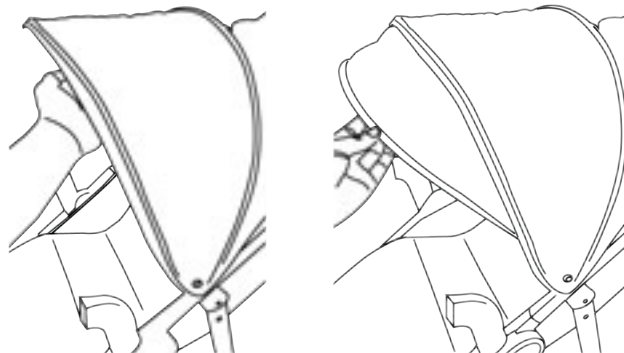

Fig. 10
9. To open the sun visor: grab front edge of sun visor under canopy and pull down and rotate forward until fully extended. (Fig. 10)